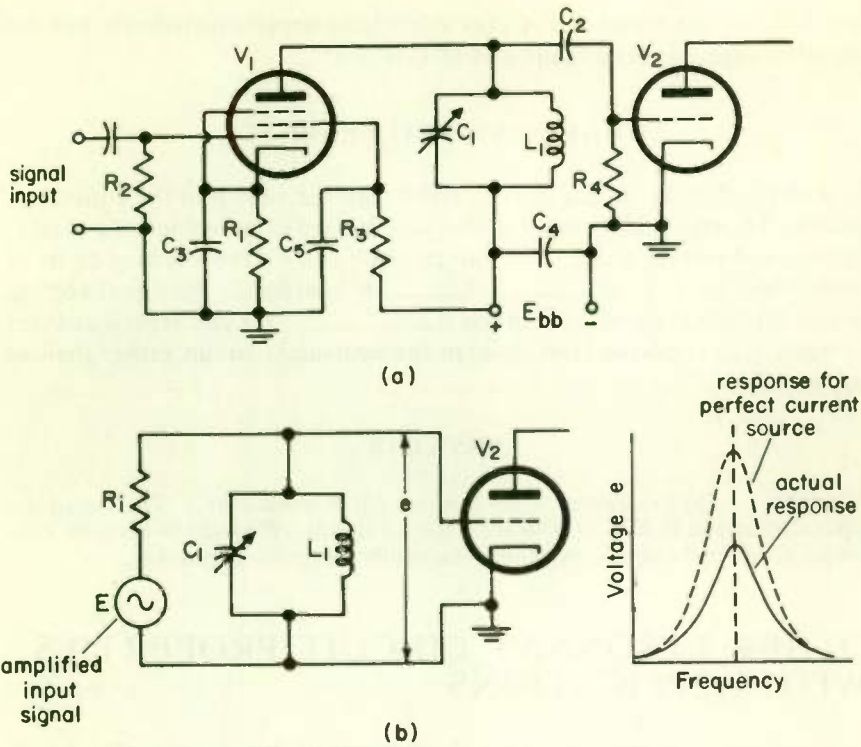

Fig. 26 Circuit of Fig. 16 redrawn with its equivalent circuit.
The operation of the circuit in Fig. 26(a) has been previously explained by saying that $C_1 L_1$ offers a high impedance to the signal output from V_1 , forcing the signal to take the path through C_2 to the grid of V_2 . We will now take a more advanced look at the operation of this circuit.
In the equivalent circuit of Fig. 26(b), E is a constant voltage equal to signal input to the grid of V_1 multiplied by the tube μ . R_i is the internal resistance of the tube (the plate resistance). Since R_i is a rather high value, E and R_i form an approximate constant-signal-current source. The voltage fed to the grid of V_2 varies with frequency as shown to the right of (b). Off resonance where the impedance is low, e , which is equal to $I \times Z$, is
1. Refer to Fig. 26. Capacitors C_2 and C_3 are not shown in the equivalent circuit. The equivalent circuit shown here is used to show the (a) (a-c) (d-c) current and voltage paths. The values of C_2 and C_3 are assumed to be of such value that their (b) _____ is low; hence the signal voltage passes through them without much (c) _____. We can represent them as being (d) (a conductor) (an open) in the equivalent circuit rather than as capacitors.
1. (a) A-c (b) Reactance (c) Loss (d) A conductor . . . The use of the equivalent circuit in Fig. 26 is to show the a-c circuit. We want to consider only the a-c action in the circuit; therefore we simplify it as much as possible.
Resonant circuits are so useful in electronics because they have a high impedance at some frequencies and a low impedance at others. They thus differ from resistors, which have a high impedance at all frequencies. Resonant circuits are used in place of resistors when it is desired to have a much higher or a much lower impedance at one frequency than at other frequencies. For example, in Fig. 26(a) a resistor could be used in place of $C_1 L_1$ if it were desired to amplify all frequencies. The circuit is then identical with amplifier circuits discussed in preceding lessons.